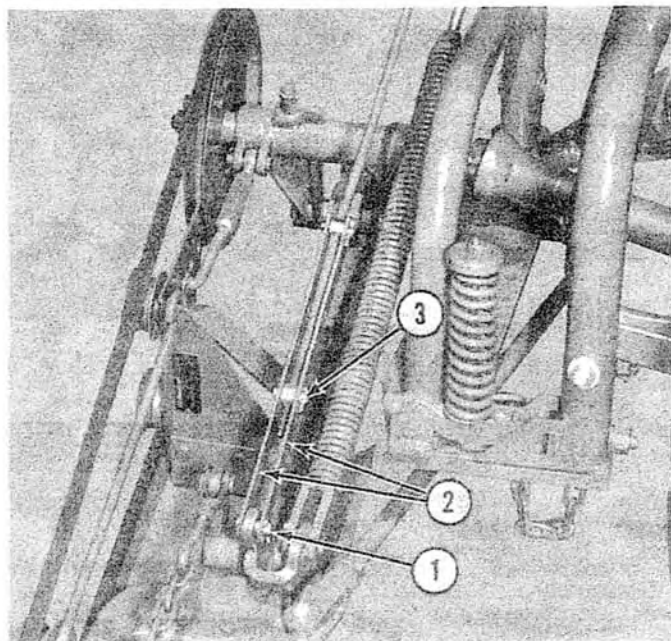

Fig. 27 - Lift Link Adjustment
1. Remove the clevis pin (No. 1, Fig. 27) attaching the lift rod retaining links (No. 2, Fig. 27) to the retaining arm.
2. Screw the links either clockwise, or counterclockwise, so that the trunnion (No. 3, Fig. 27) retaining the lift rod is screwed in the direction required to make adjustment.